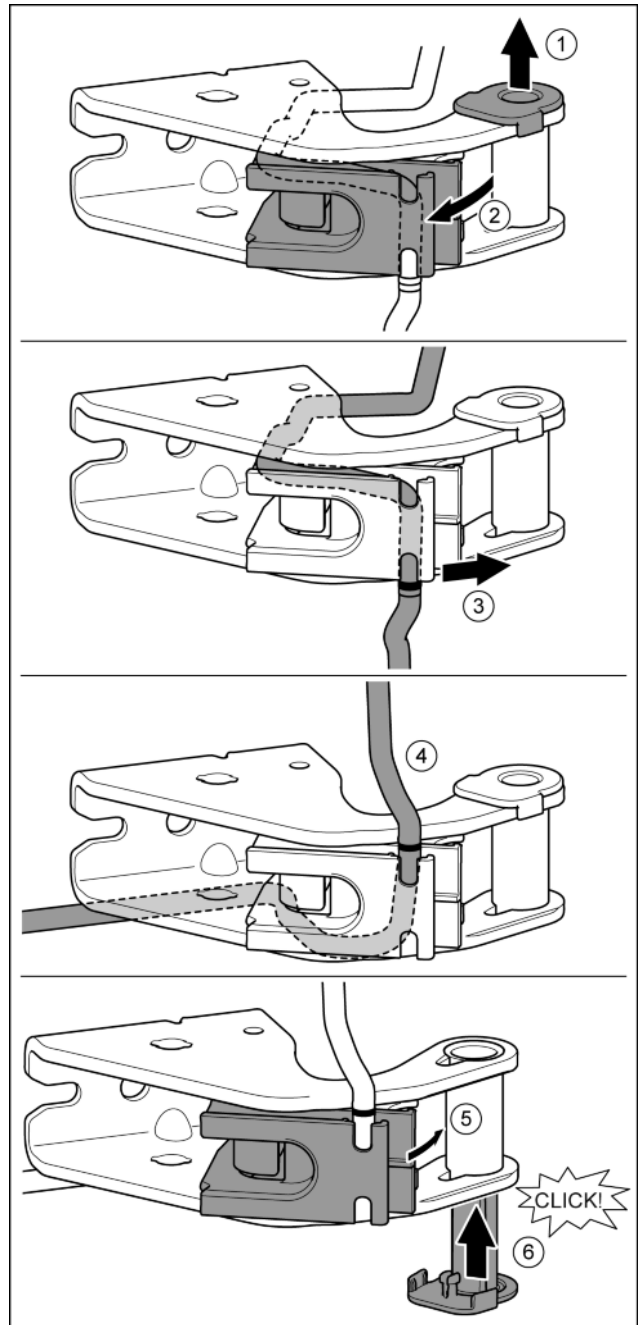

Fig. 26
- ▶ Pull the bearing bush out of the guide. Fig. 26 (1)
- ▶ Swing the cable bracket out. Fig. 26 (2)
- ▶ Remove the cable from the guide. Fig. 26 (3)
- ▶ Insert the cable mirror inverted. Fig. 26 (4)
- ▶ Swing the cable bracket in. Fig. 26 (5)
- ▶ Insert bearing bush from the other side and click into place. Fig. 26 (6)